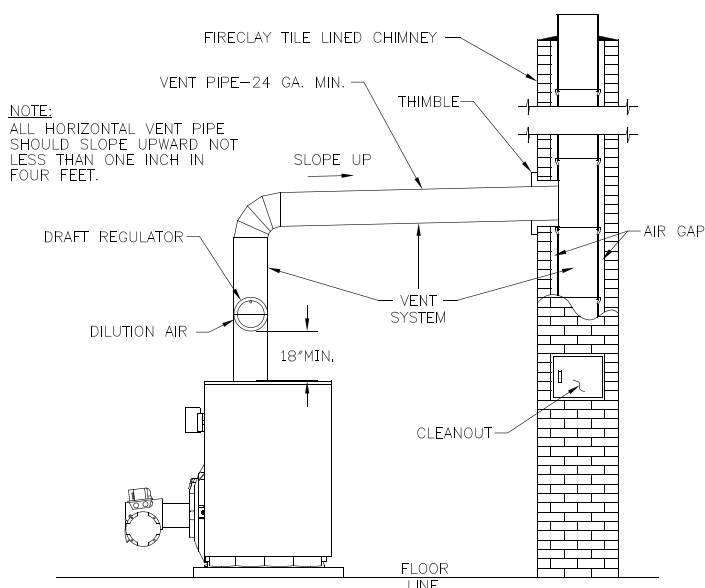

Figure 7: Recommended Smokepipe Arrangement and Chimney Requirements
5. Draft Regulator – a draft regulator is not supplied with the boiler. A draft regulator must be used with this appliance. Refer to Figures 7 and 8.